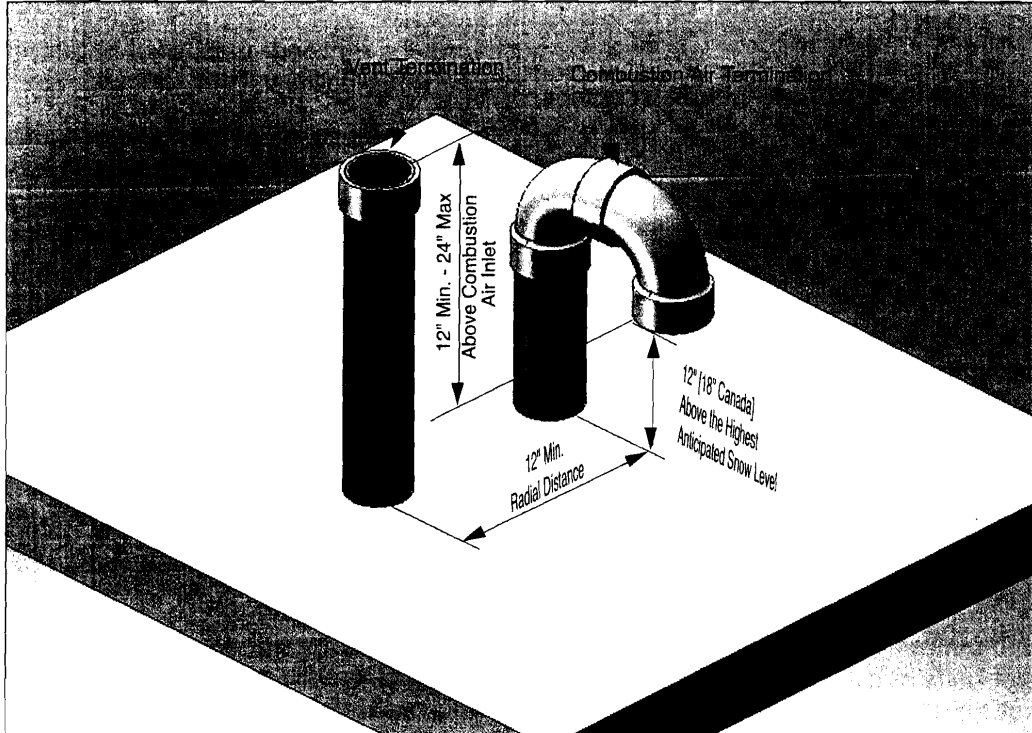

Fig. 1: Direct Vent - Vertical Termination of Vent and Combustion Air Piping.
3. Locate the vent and combustion air pipe penetrations to provide clearances as described in Fig. 1 & Fig. 2 on page 6.
2. The combustion air piping must terminate in an upside down "U" shape fashion using two 90° elbows as shown in Fig. 1 page 6 or with a tee as shown in Fig. 2 on page 6.
3. The vent piping must terminate vertically with a coupling as shown in Figs. 1 & 2 page 6.
Do not extend the vent pipe above the roof beyond the dimensions shown in Fig. 1 & Fig. 2 on page 6. Extended exposure of the vent pipe could cause condensate to freeze and block the vent pipe.